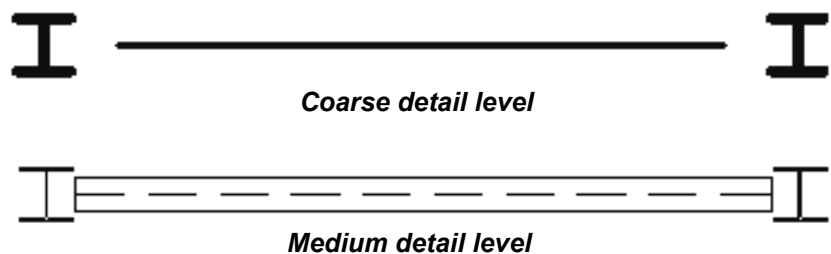

Figure 7–25
- For a visual reference, you can use either location lines (shown in Figure 7–26) or analytical lines (shown in Figure 7–27).